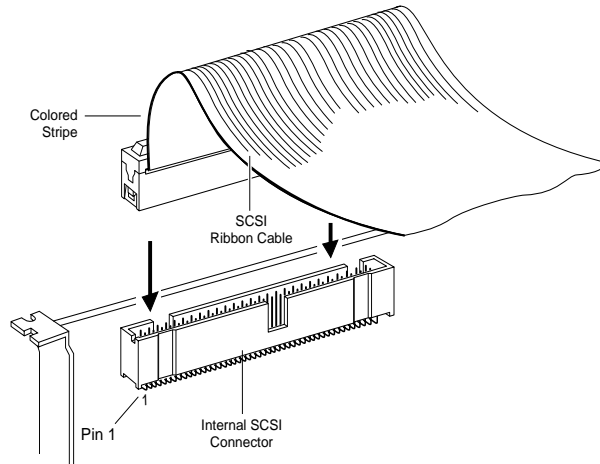

Figure 5-4. Internal SCSI Ribbon Cable to AHA-398x
- 2 Plug the SCSI connector at one end of the ribbon cable (the end without the passthrough terminator) into one of the AHA-398x's internal SCSI connectors, as shown in Figure 5-4.